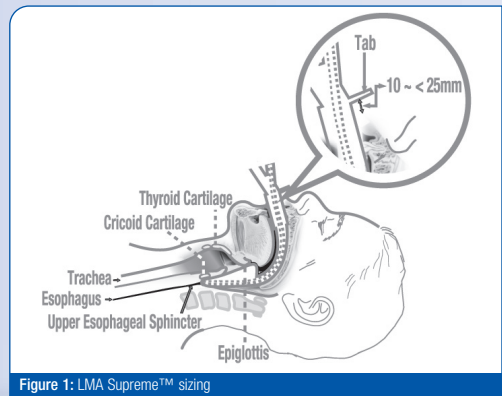

Figure 1: LMA Supreme™ sizing
- To initially verify the correct size of the LMA Supreme™, hold up a clean device against the patient head and neck in a position as shown in Figure 1